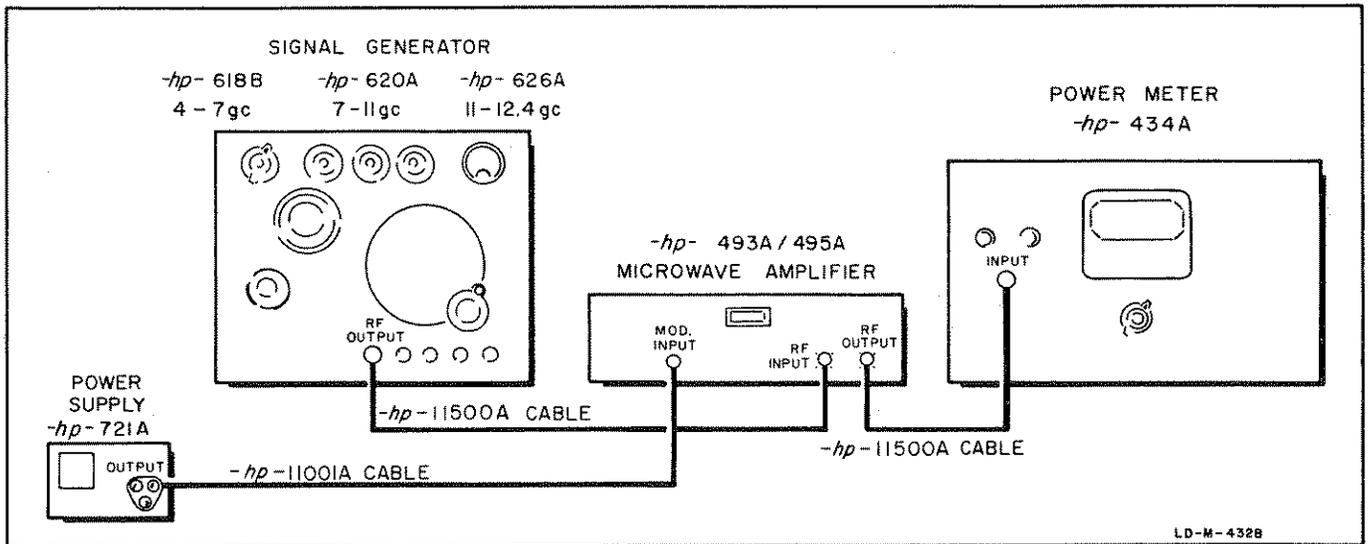

Figure 5-8. Modulator On-Off Ratio
- a. Set up the Model 493A as shown in figure 5-8 (power supply power off). Signal generator set up for a 1 mw output at microwave amplifier low power point.
- a. Connect the Model 493A as shown in figure 5-8, with the signal generator and the power meter at the same setting as those in paragraph 5-36 steps c and d.